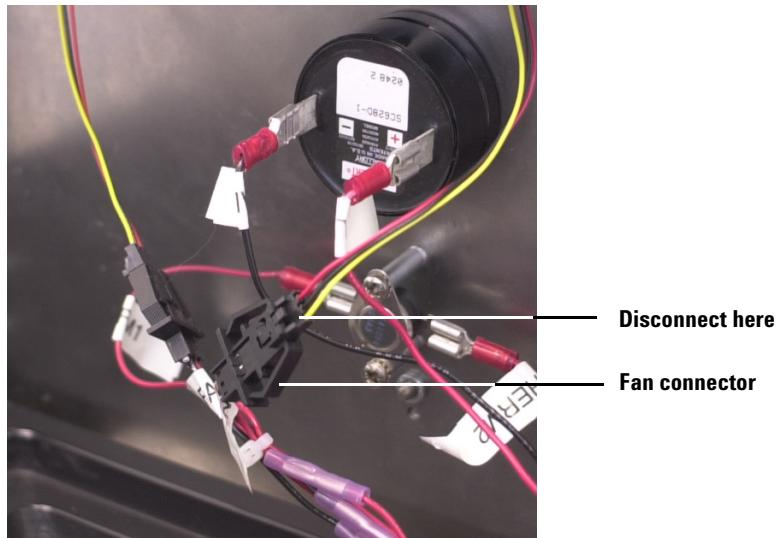

Figure 6 Disconnecting the fan.
- 2 Disconnect the fan cable at the fan connector of the wiring harness. (See Figure 6.)